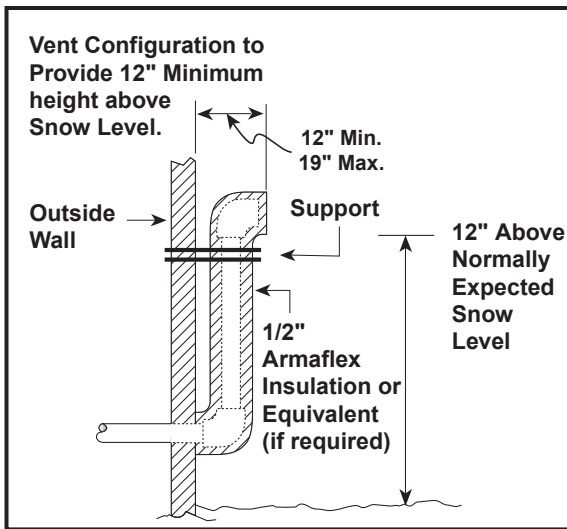

Figure 18. Alternate Horizontal Vent Installation
1. The termination must be 12 inches above snow level or grade level whichever is higher. See Figure 18 for alternate method to achieve 12" above snow level.
When the vent pipe must exit an exterior wall close to the grade or expected snow level, a riser should be provided as shown in Figure 18. Insulation is required to prevent freezing of this section of pipe.